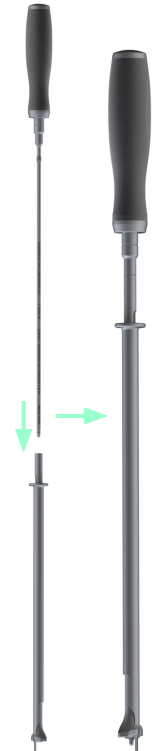

Fig. 54
- Insert the Locking Cap Inserter Shaft into the assembly and rotate the handle until secure (Fig. 54).